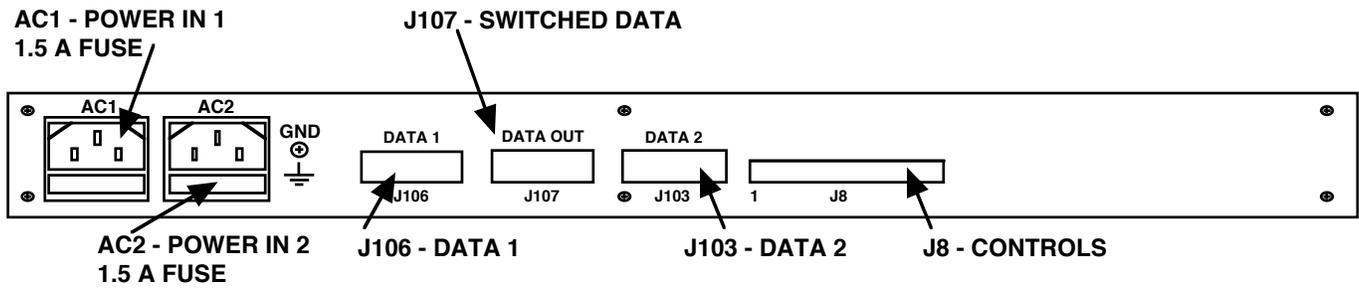

FIGURE 2.0 1582-03 REAR PANEL
J8 - MONITORS AND CONTROLS CONNECTOR (FIGURE 2.0)
3. Connect to signals on the MONITORS AND CONTROLS connector, J8, as desired (see Figure 2.0, Table 2.0).